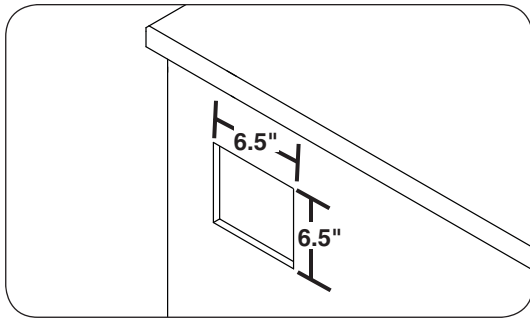

Fig. 1-1 Cut out dimensions
1. Create box cutout in grill enclosure. See fig 1-1.